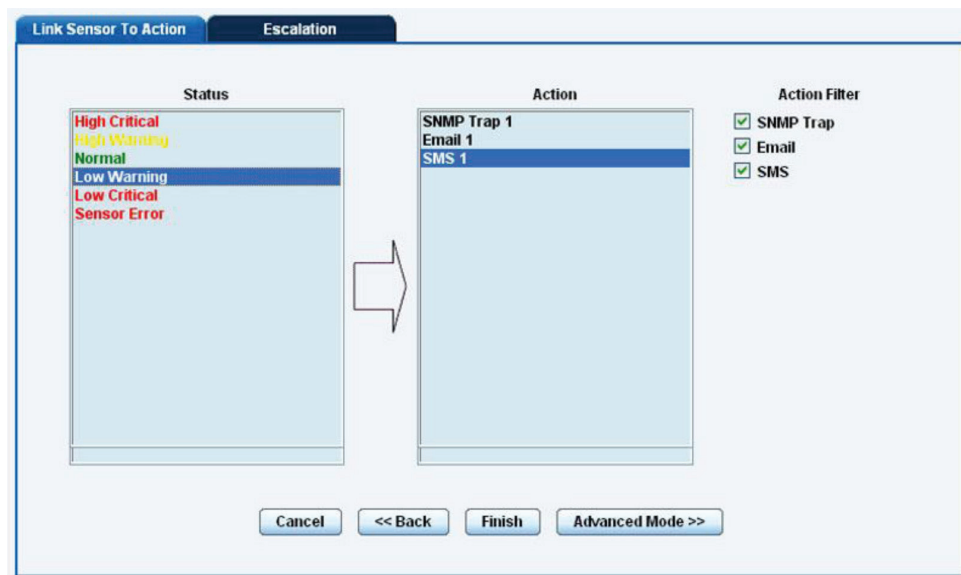

Figure 4-29. Link sensor to action tab.
11. This time we will use this notification for a low warning. Then select the notification name we assigned, in this case we chose "SMS 1." Click "Finish" to finalize this. (See Figure 4-29.)